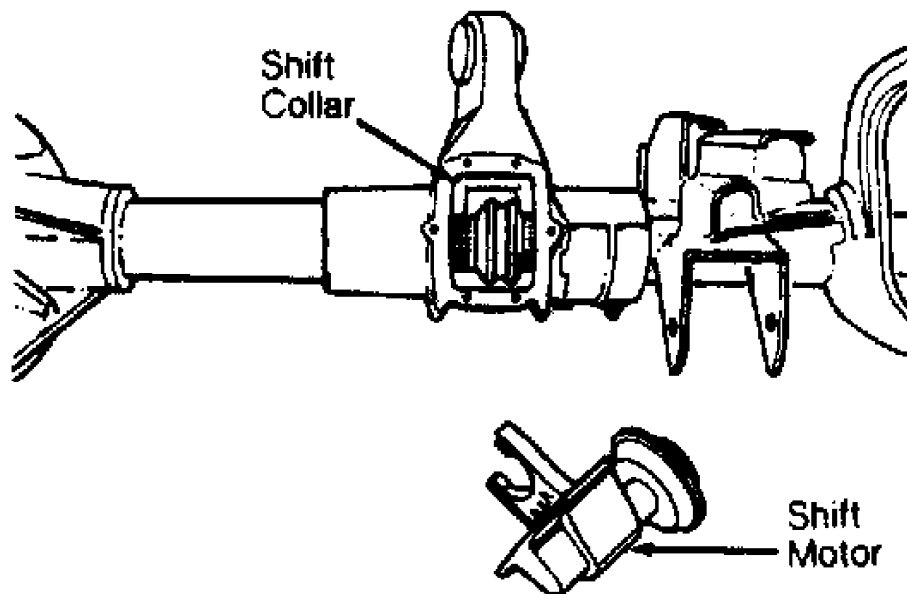

Fig. 1: Removing Command-Trac Shift Motor
2) Remove hub-to-steering knuckle bolts. Remove hub and rotor shield from steering knuckle. Remove left axle shaft from axle tube. On models with Command-Trac, disconnect vacuum harness. Remove vacuum motor housing. See Fig. 1.
2) Ensure outer axle shaft is completely engaged with shift collar and joined with intermediate axle shaft. See Fig. 1. Install shift motor. Ensure fork engages with shaft collar.